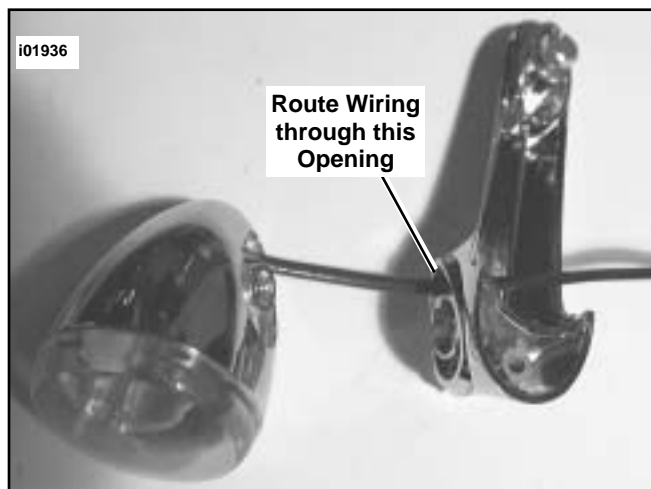

Figure 6. Route Signal Wiring through Relocation Mount
12. See Figure 6. Obtain left turn signal relocation mount and route wiring from turn signal through mount as shown.